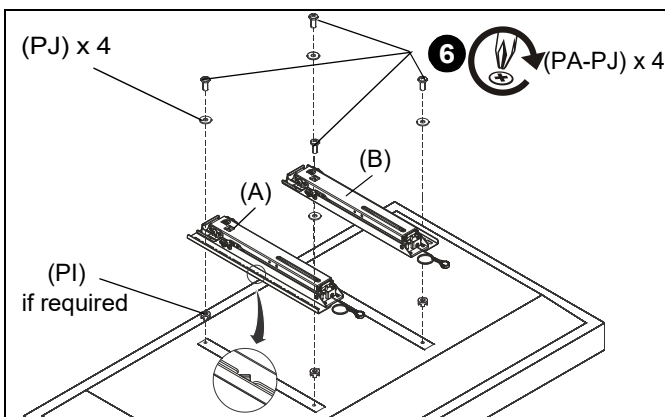

Figure 24
- Select screw *diameter* by examining hardware (PA-PC and PD-PH) (6mm or 8mm) and comparing with mounting holes on display. (See Figure 24)
**NOTE:** 3/16" washers (PJ) can ONLY be used with M6 screws (PA-PC) as M8 screws (PD-PH) have too large of a diameter.
- Select screw *length*: (See Figure 24)
- By hand, insert SHORTEST length screw of selected diameter (PA-PH) through 3/8" washer (PJ), bracket (A or B), nesting spacer (PI, if required), into display mounting hole. Do NOT thread screw into hole at this time.
- Make sure diamond on interface brackets is even with center of display. (See Figure 24)
- Use selected screws (PA-PH), washers (PJ) and spacers (PI), if necessary, to connect interface brackets (A and B) to back of display. (See Figure 24)